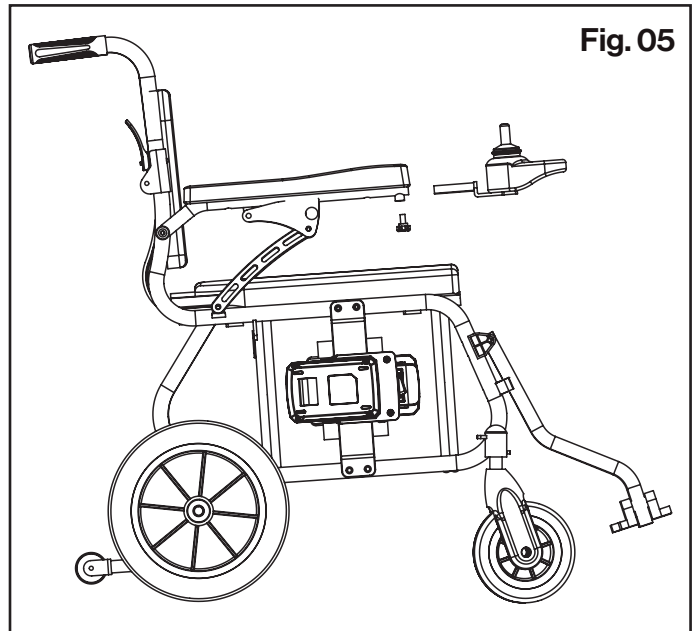

Fig. 05
- Insert the pipe of the Joystick controller into the fixing pipe at the lower of the right armrest pipe of the wheelchair (**Fig.05**).